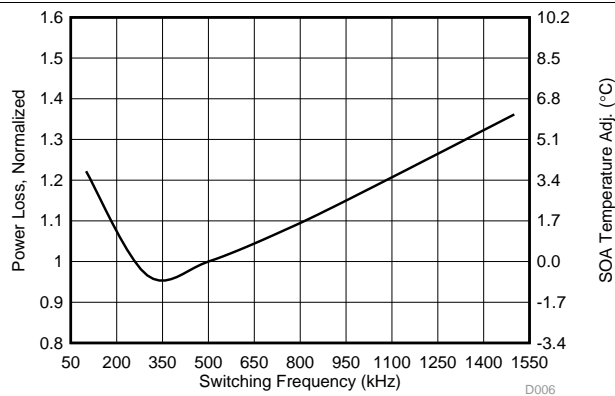

Figure 5. Normalized Power Loss vs Switching Frequency
- Normalized power loss for switching frequency ≈ 1.08 (Figure 5)
- SOA adjustment for switching frequency ≈ 1.32°C (Figure 5)